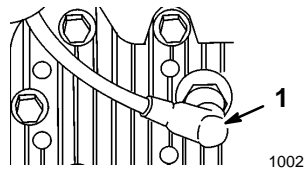

Figure 12
1. Stop the engine and pull the wire off of the spark plug (Fig. 12).
- Pull the wire off of the spark plug (Fig. 12).
- Stop the engine and pull the wire off the spark plug (Fig. 12).
5. Connect the spark plug wire (Fig. 12).
- C. If there are no signs of wear or dullness, return the mower to the upright position and replace the spark plug wire (Fig. 12).